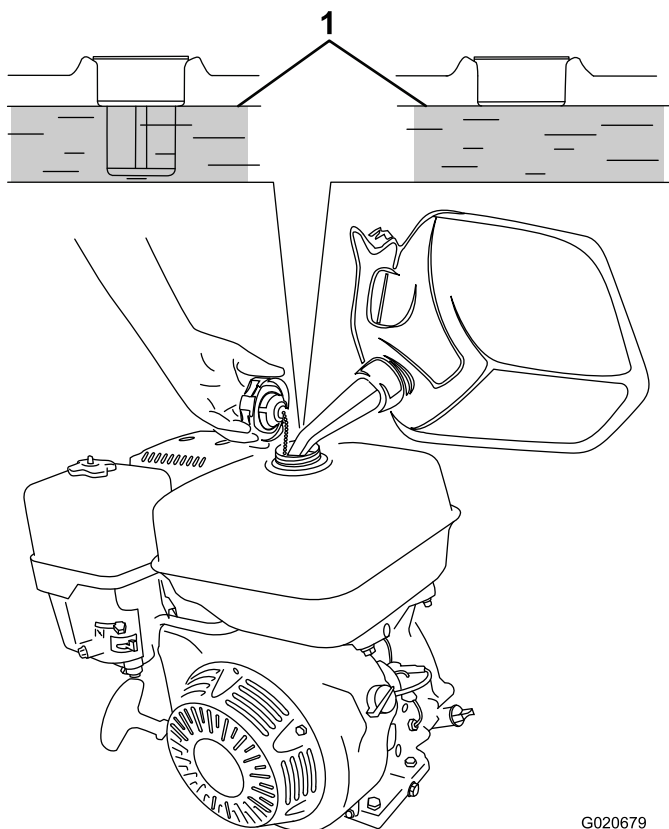

Figure 33
3. Add unleaded gasoline to the fuel tank, until the level is at the bottom of the maximum fuel level, as shown in Figure 33.